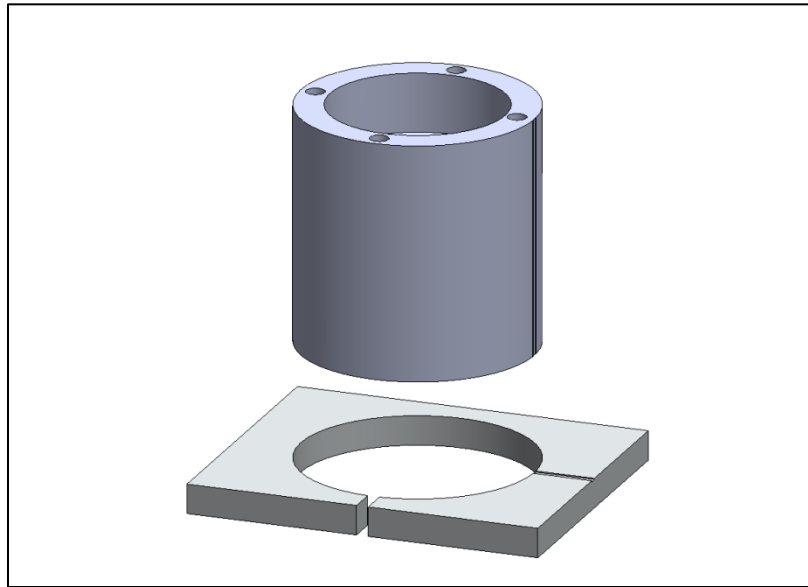

Figure 2.4 – Circular part with jig
- In other cases where lateral and radial cutting forces will be applied to the part a jig can be used. Figure 2.4 shows an example of a very simple, effective circular holding jig which is commonly used in the shop. The scratch marks on the part and jig allow the part to be replaced into the mill in the correct orientation for post machining operations or modifications.